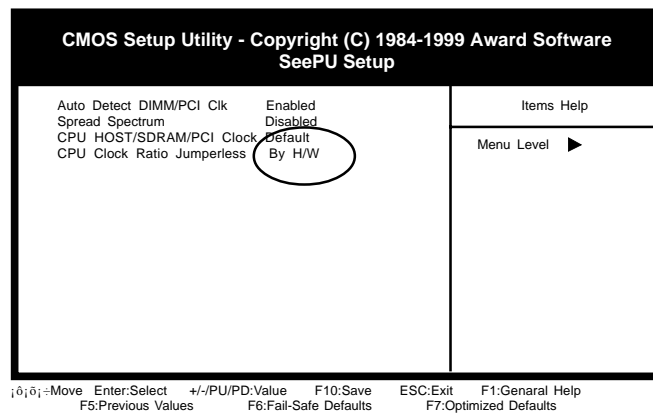

Figure 2-3
3. Use the CPU HOST/SDRAM/PCI Clock option to select your CPU's parameters. Set the clock ratio (also known as external clock multiplier factor) according to your processor's specifications (See Figure 2-3).